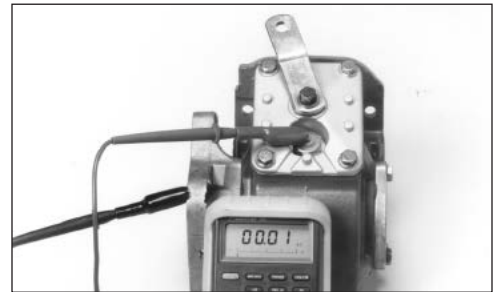

Figure 20
1. Use a continuity checker, battery type, either meter or light. Attach one (1) probe to the screw on the Indicator Switch.
2. With the other probe, make contact with the shifter cover or housing (**Fig. 20**).